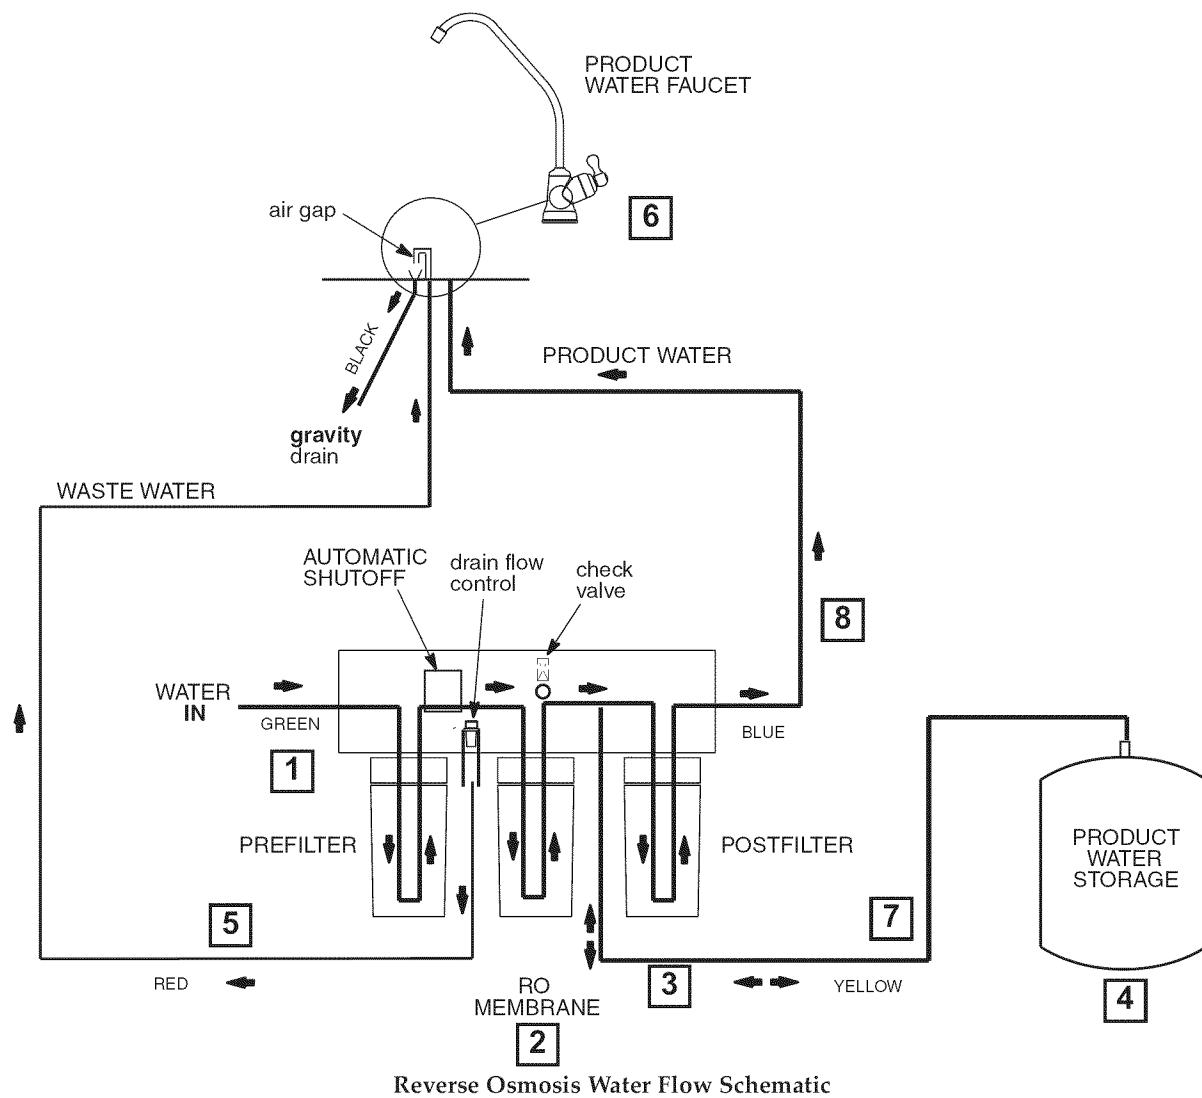

Figure 24
**Introduction:** Your Reverse Osmosis (RO) Drinking Water System uses your household water pressure to force water through three filters. Minerals and impurities are filtered out. Delicious tasting drinking water goes to the storage tank-ready for your use. Minerals and impurities are sent down the drain. The following paragraphs will explain in detail how your Reverse Osmosis Drinking Water System works.
**Prefilter:** Water from the cold supply pipe enters the prefilter. See Figure 24. The prefilter has a replaceable sediment cartridge with activated carbon in its composition. The cartridge reduces taste, odor, sand, silt, dirt, other sediments, and up to the amount of chlorine shown in the specifications.
**Reverse Osmosis Cartridge:** Filtered water flows from the prefilter, to the Reverse Osmosis membrane cartridge. See Figure 24. The Reverse Osmosis cartridge is a tightly wound special membrane. The membrane reduces the dissolved solids and organic matter. High quality product water (about one ounce per minute) exits the Reverse Osmosis cartridge. The product water flows to the storage tank, postfilter or Reverse Osmosis faucet. See Figure 24. Reject water, with the dissolved solids and organic matter, is routed to the drain. See Figure 24.
**Storage Tank:** The storage tank holds product water. See Figure 24. A diaphragm inside the tank holds water pressurized to about 30 psi when the tank is full. This provides fast flow to the Reverse Osmosis faucet. When the tank is empty of water, it is pressurized to 5 - 7 psi.
**Postfilter:** Before going to the Reverse Osmosis faucet, product water goes through the postfilter. See Figure 24. The postfilter is an activated carbon type filter. Any remaining tastes and odors are reduced from the product water. Clean, high quality drinking water is available at the faucet.
**Reverse Osmosis Faucet:** The sink or countertop faucet has a hand operated knob to access drinking water. See Figure 24. An air-gap is built into the faucet drain water connection to comply with plumbing codes. See Figure 24.
**Shutoff Assembly:** The unit has an automatic shutoff system to conserve water. When the storage tank has filled to capacity, and the drinking water faucet is closed, pressure closes the shutoff to stop flow to the drain. After enough drinking water is used, pressure in the system drops, and the shutoff opens to allow the tank to be refilled. See Figure 24.
**Check Valve:** A check valve is located in the Reverse Osmosis manifold, above the center sump. The check valve prevents a backward flow of product water from the storage tank to drain. A backward flow could damage the Reverse Osmosis Membrane. See Figure 24.
**Flow Control:** Water flow to the drain is restricted by the flow control. It maintains the desired flow rate to obtain the highest quality drinking water. The flow control is located in the end of the 1/4" red drain tubing, at the Reverse Osmosis manifold drain port. See Figure 24.